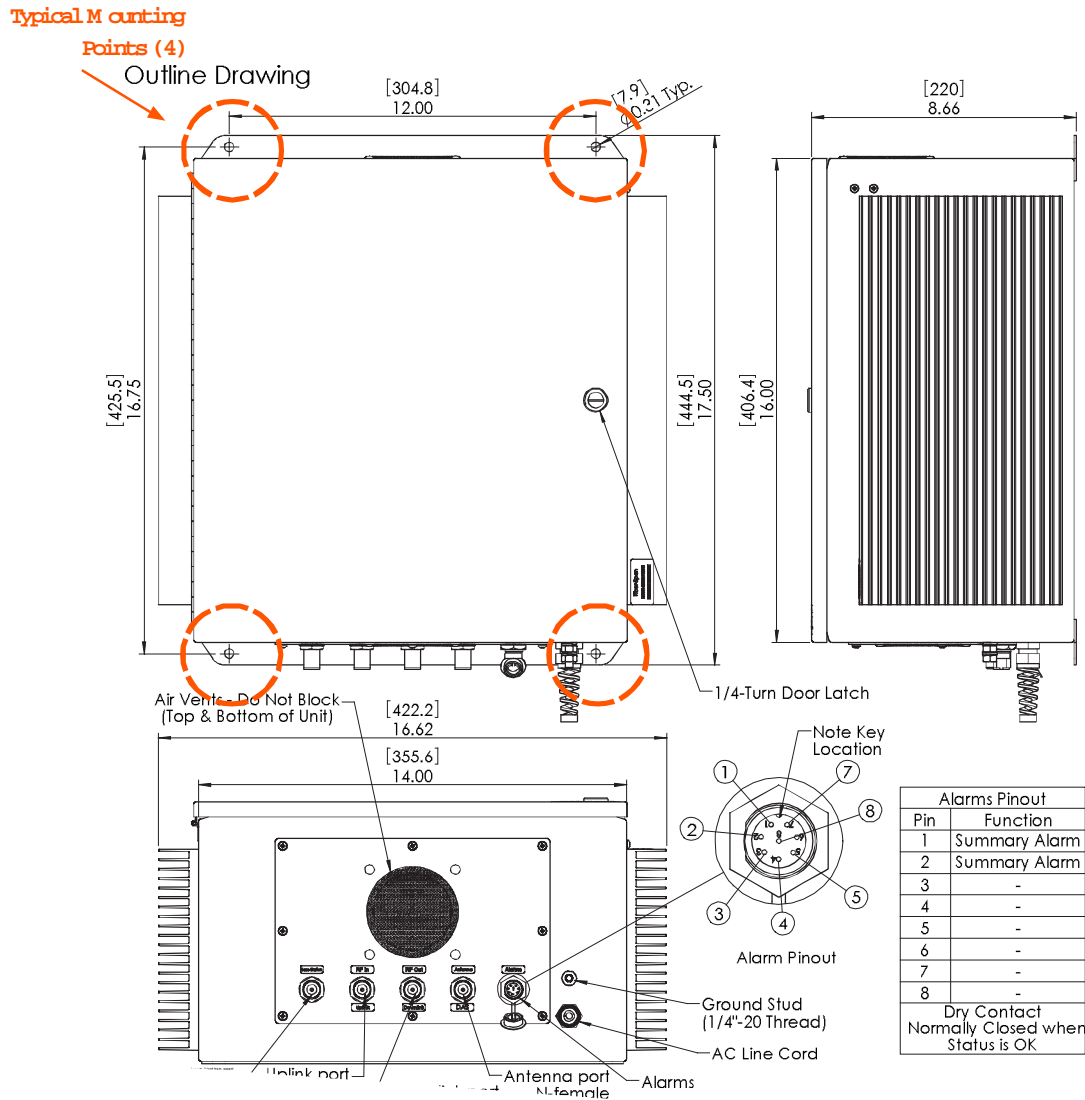

Figure 10: Outline Drawing - Wall-mount Configuration
A total of four (4) bolts are needed to mount the DHRU to the wall. The bolt patterns for the DHRUs are shown in the Outline Drawing. See **Figure 10** for example.